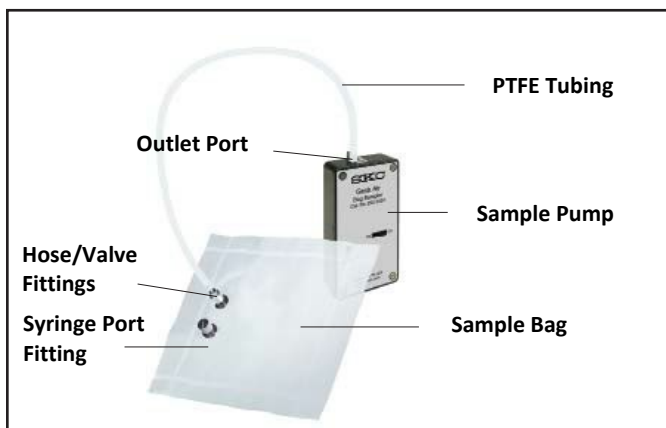

Figure 1. Grab Air Sample Pump connected to a 237 Series Bag with dual stainless steel
3. Setting Up the Sampling Train — Figures 1 & 2